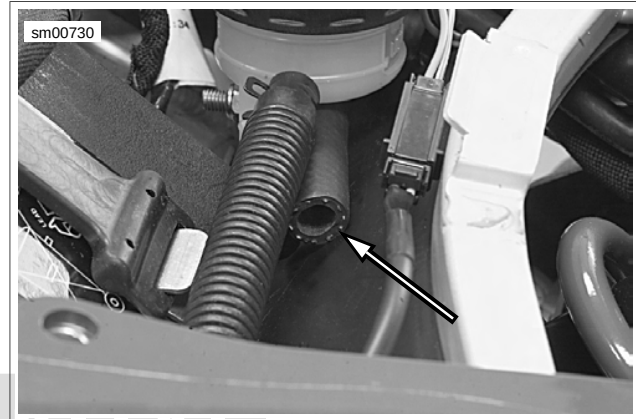

Figure 3-31. Transmission Vent Line: Firebolt
- a. See Figure 3-31. On Firebolt models, route transmission vent line up through left side of frame exiting under the rear master cylinder under the rider's seat. Install two tie wraps to secure transmission vent line in place. Inspect vent line to verify space between vent line and rear exhaust.